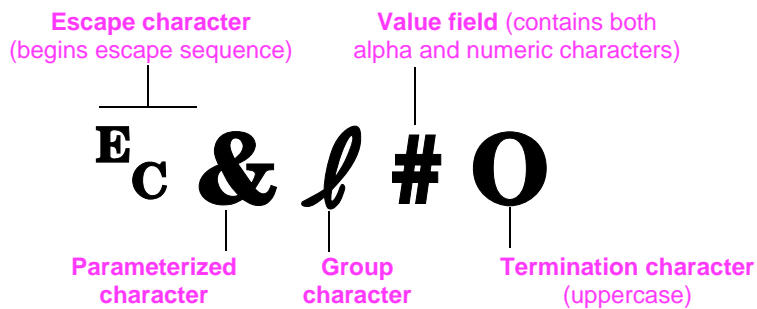

Figure D-1 Printer Command Elements
Figure D-1 displays the elements of a typical printer command (in this instance, a command for page orientation).
- 1 The first two characters after the E_C character (the parameterized and group characters, see Figure D-1) must be the same in all of the commands to be combined.